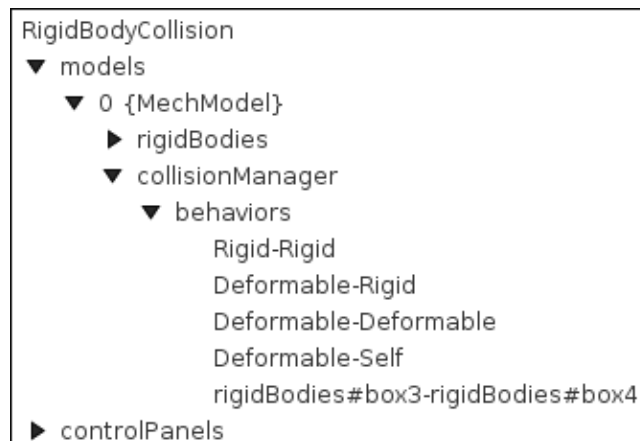

Figure 81: Expanded navigation panel showing the collision manager and individual behavior components for a `MechModel`.
- For more fine-grained control, one may also use the navigation panel to select one or more of the behavior components located under the collision manager (see Figure 81). The first four of these control the default behaviors. Other behaviors, if any, are overrides that have been added either by application code, or through the GUI. Once selected, one can choose “Edit properties ...” or “Edit render props ...” from the right context menu to edit their properties. In the case of override behaviors, the context menu can also be used to remove them.